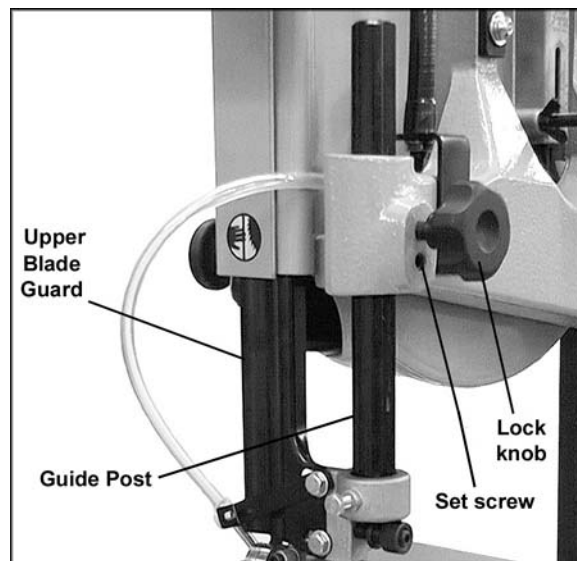

Figure 46
Refer to Figure 46.
4. The *guide post* (Figure 46) is spring loaded. To adjust the tension on the spring, unscrew and completely remove *knob*, then tighten or loosen *set screw*, until desired tension is reached. Re-install *knob*.